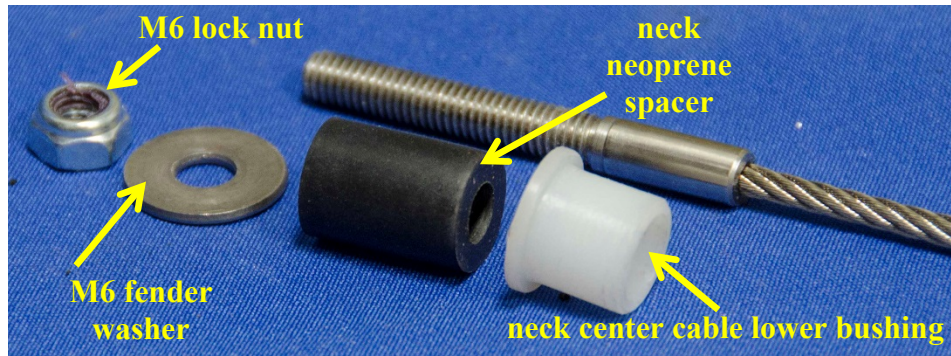

Figure 4-16. Hardware for securing neck center cable
4.2.2.7 Assemble and install the neck center cable at the threaded end. The order of installation is as follows (Figure 4-16³):